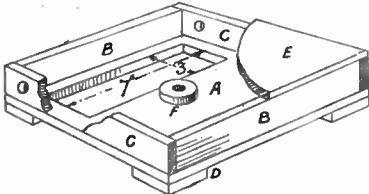

Fig. 1—The base
The formation of the base is shown in Fig. 1, where (A) is a piece of wood $\frac{1}{4}$ in. thick and $8\frac{1}{2}$ ins. square. In this piece there must be cut an opening measuring 7 ins. by 3 ins., to facilitate the easy handling of the belt when looping it round the two spindles. On the floor (A) is glued a 1 in. disc of $\frac{1}{4}$ in. wood with a $\frac{3}{8}$ in. hole in the middle. This is to take the lower end of the centre spindle
Looking again at Fig. 1 you will see that the sides of the base are made up of the two pieces (B), measuring 8 ins. long by 1 in. wide, and the two pieces (C), which are $8\frac{1}{2}$ ins. long and 1 in. wide. Wood $\frac{1}{4}$ in. thick is used throughout for all parts of the toy.